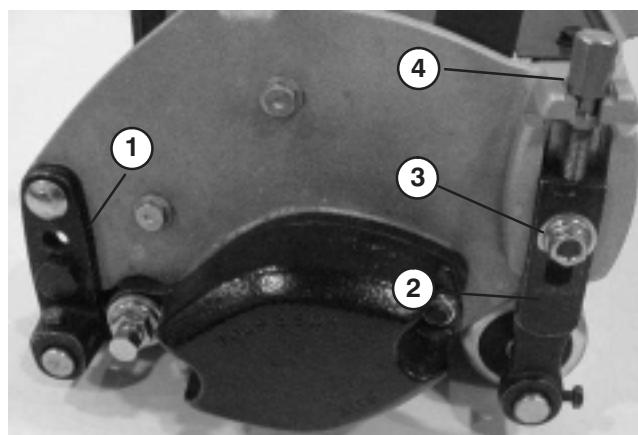

Figure 18
- Adjust rear roller brackets (Fig. 18) to upper or lower position depending on desired height of cut range.
- Loosen locknuts securing height-of-cut arms to cutting unit side plates (Fig. 18).